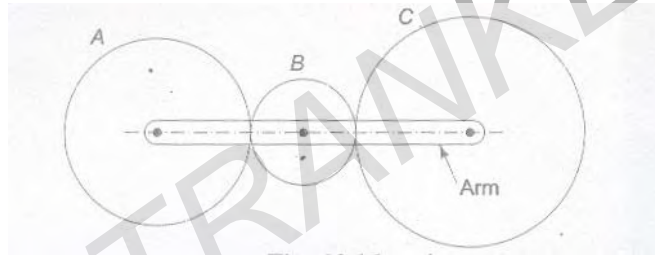

Figure 1b
1. In an epicyclic gear train, as shown in figure 1b, the number of teeth on wheels A, B, and C are 50, 25, and 52 respectively. If the arm rotates at 420rpm cw, find